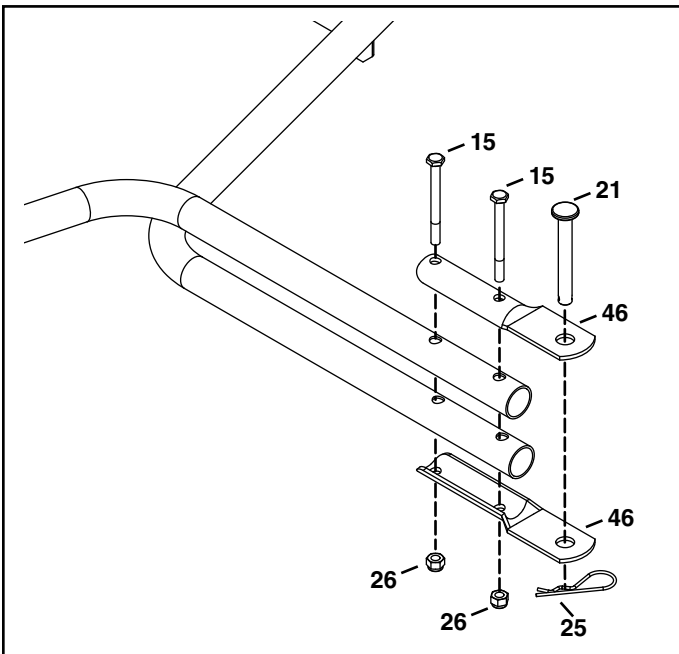

FIGURE 5
- Fasten the hitch tubes together using two 1/4" x 2-3/4" hex bolts (15), hitch brackets (46), and 1/4" nylock hex nuts (26). **Do not tighten yet.** See figure 5.
- Install the hitch pin (21) through the hitch brackets (46), and secure with a 3/32 hair cotter pin (25).